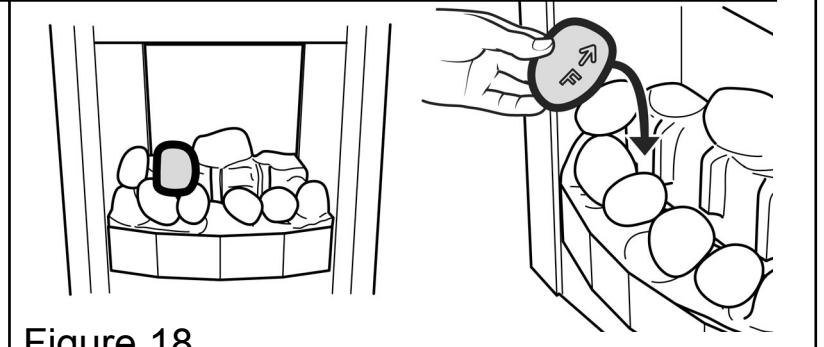

Figure 18.
8. Hold pebble 'F' upright with the arrow pointing to the top. Place pebble 'F' between the front and rear base pebbles. It should rest on top of pebble 'A' & 'B'. (See figure 18).